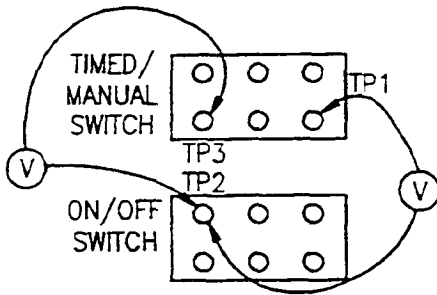

Figure 5-13. TIMED/MANUAL Switch
6. Set the TIMED/MANUAL Switch to the TIMED position. Refer to Figure 5-13. Check for 120 VAC from the TIMED/MANUAL Switch TP1 connection to the ON/OFF Switch TP2 connection.
7. Refer to Figure 5-13. Check for 120 VAC from the TIMED/MANUAL Switch TP3 to the ON/OFF Switch TP2.